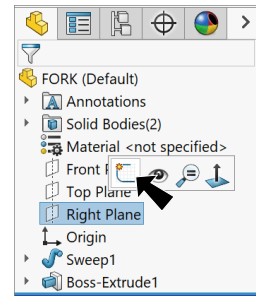

Fig. 20
Step 1. Click **Right Plane**  in the Feature Manager and click **Sketch**  on the context toolbar, **Fig. 20**.